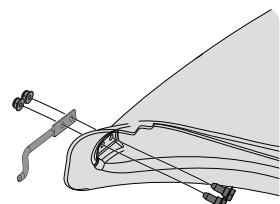

Figure 18
1. From the inside of the boot, put two hex head shoulder screws (738-1225) through the holes at the bottom front of the boot. See Figure 18.
2. Put the mounting rod (747-06309) in place over the hex head shoulder screws. Make sure the tip of the rod is facing out from the boot. See Figure 18.
3. Begin threading the hex nuts (712-04064) onto the hex head shoulder screws. See Figure 18.